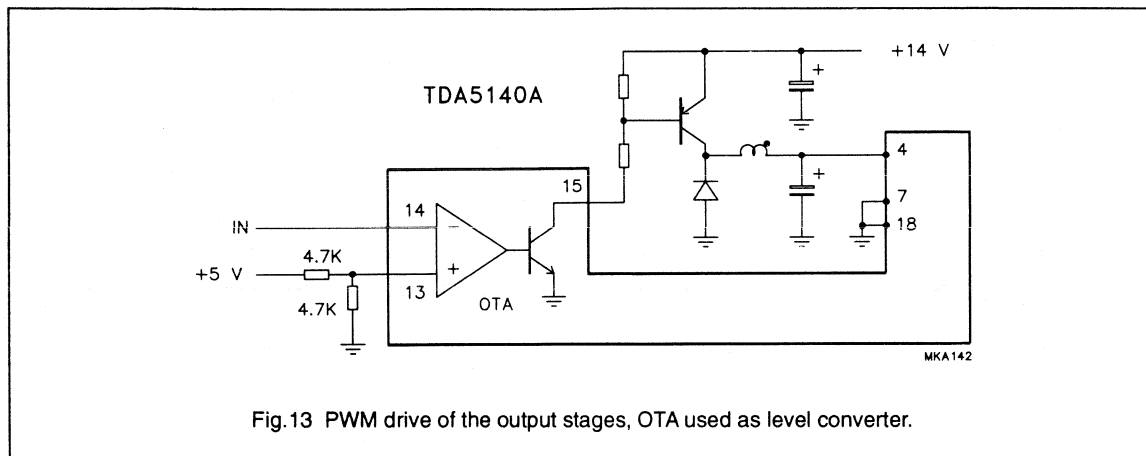

Fig.13 PWM drive of the output stages, OTA used as level converter.
- With digital or PWM control an external switching transistor is necessary. The OTA can make the level translation and drive the power transistor (see Fig.13).